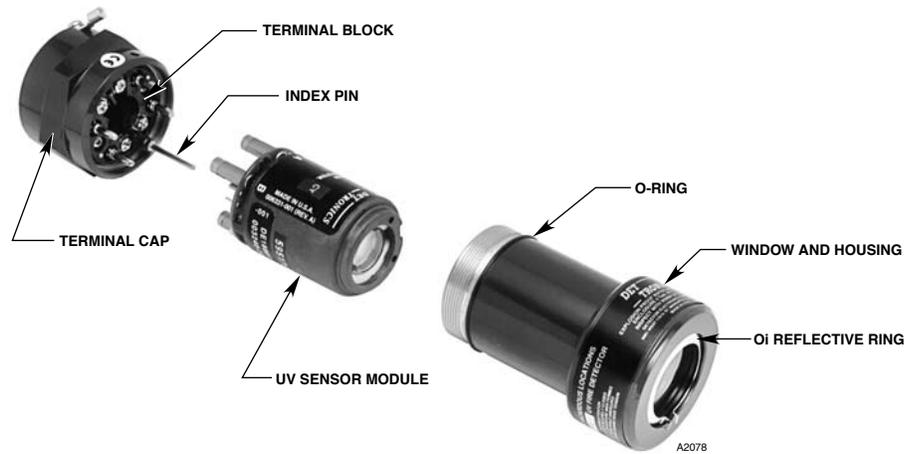
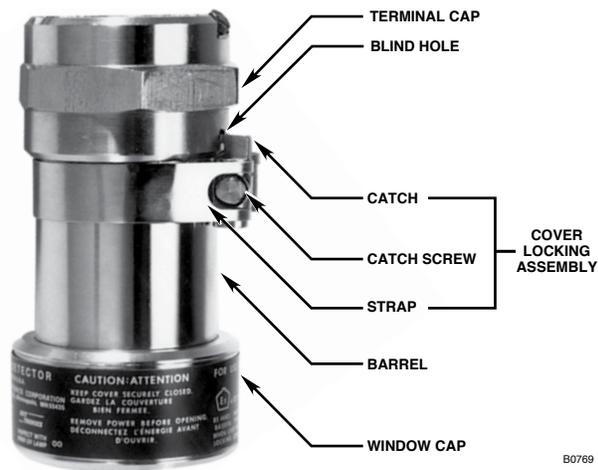

Figure 9—C7050 Detector
Figure 10—Detector with Cover Locking Assembly
2. Disassemble the detector enclosure by turning the housing cover counterclockwise. If the detector is equipped with a cover locking device, loosen the clamp and disengage the “catch” from the terminal cap. See Figure 9 for an illustration of the detector assembly and Figure 10 for the optional cover locking assembly.
- Re-assemble the detector housing. If the detectors are equipped with cover locking devices, loosen the clamp sufficiently so that the “catch” can be seated in the blind hole provided on the terminal cap. (See Figure 10.) The clamp must then be fastened securely around the detector barrel by tightening with the proper tool.